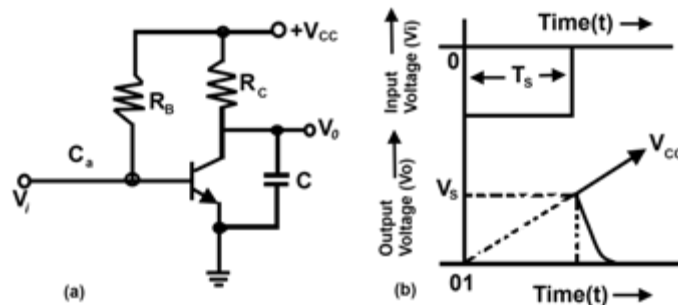

Figure 1: (a) RC Ramp Generator (b) Input and Output Waveforms
- Figure 1 shows the basic circuit of RC ramp generator. This circuit requires a gating waveform  $V_i$  as shown in Figure 1(b).